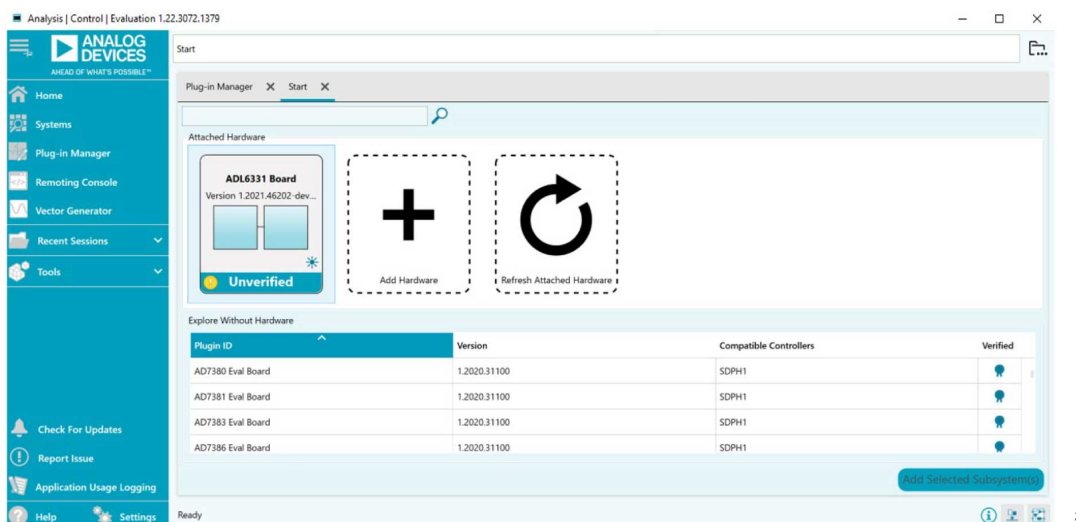
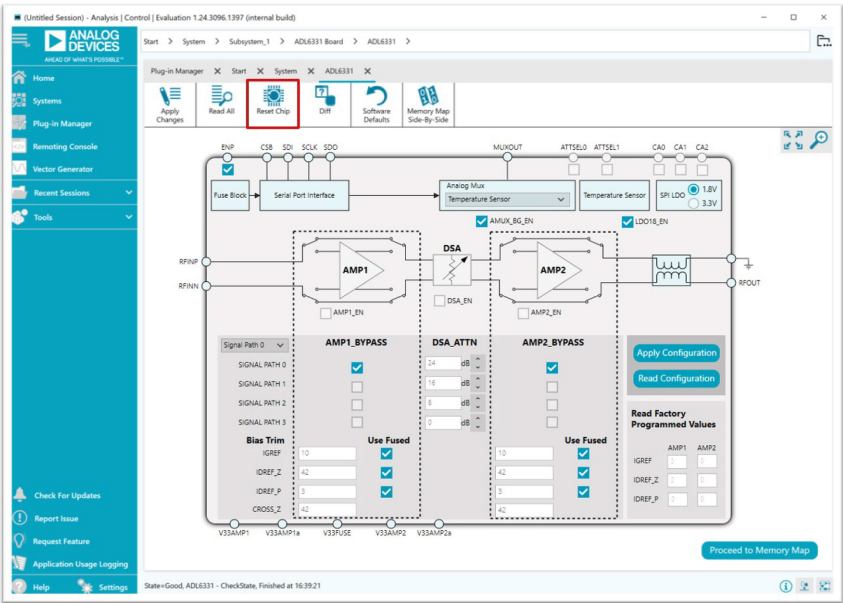

Figure 7. Initial ACE Start Page
Figure 8. ADL6331-EVALZA and ADL6331-EVALZB Board Level View (After Reset Chip and ENP Set to High)
3. Launch the ACE application. This action displays the initial ACE **Start** page as shown in Figure 7. The ADL6331 is detected
4. Click the **ADL6331 Board** icon shown in Figure 7 to open the evaluation board level view (see Figure 8). After opening, click **Reset Chip** before starting configurations.